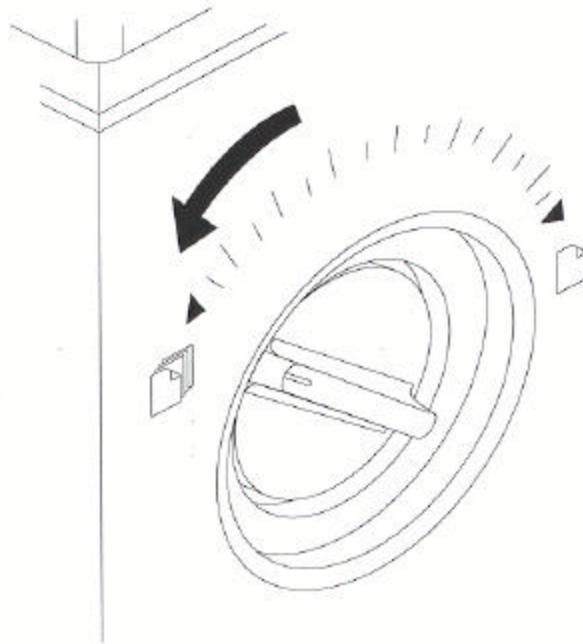

Figure 1-6: Form Thickness Adjustment Knob
3. Check the Form Thickness Adjustment Knob to be sure that it is in the first position as shown in Figure 1-6.